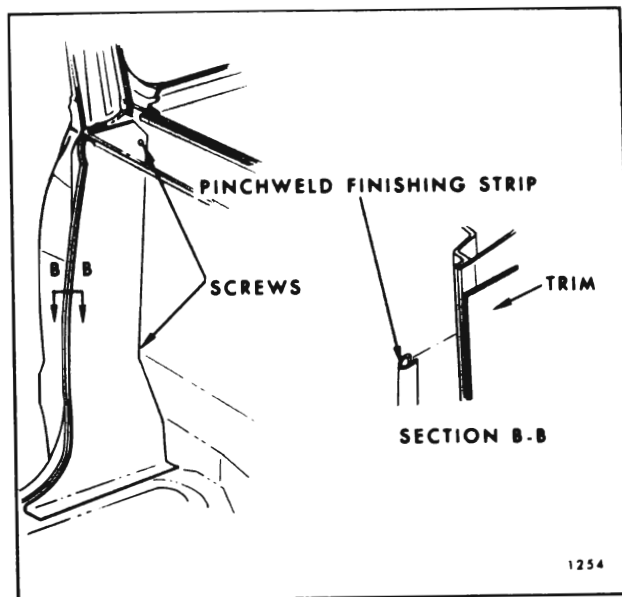

Fig. 14-31—Rear Quarter Trim Assembly - "A-80" Styles
2. Detach rear body lock pillar pinchweld finishing strip (see section "B-B" in Fig. 14-31) and remove front door sill plate.
3. Remove screws securing rear quarter trim to body panel and remove assembly from body (see Fig. 14-31).